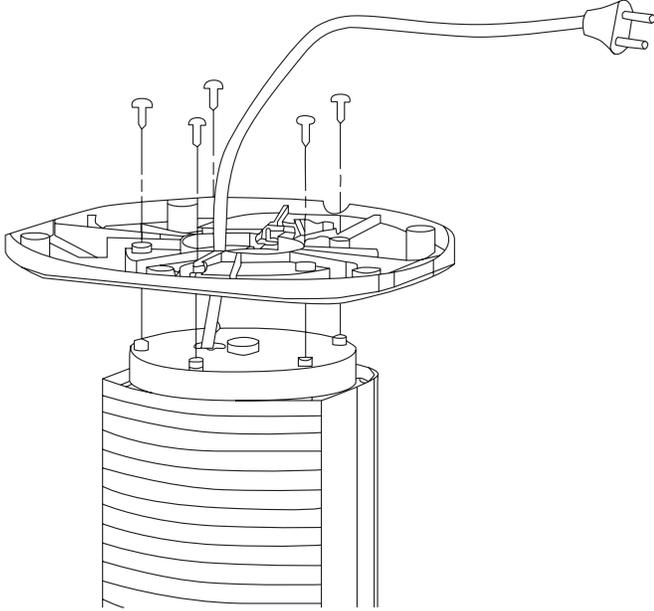

FIGURE 1
1. Pass the power cord in the centre hole of the base. Align base holes with column holes and insert screws to fix base in place (see Figure 1).